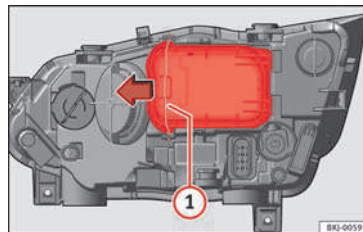

Fig. 96 In the engine compartment: remove the lid.
- Move the loop »» Fig. 96 ① in the direction of the arrow and remove the cover.